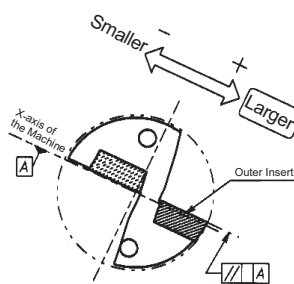
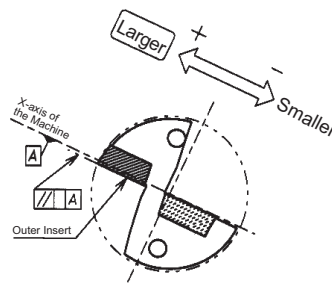

Fig.2 Outer insert Facing Up
Fig.3 Outer insert Facing Down
- Using the bottom screw of the side-lock arbor, firmly tighten on the drill directly through the sleeve's window. The upper screw should be tightened slightly so that the sleeve will not be damaged. (Fig.2)
Most Lathe problems occur due to Center Height Deviation. The Center Height is appropriate if a core approximately 0.5mm diameter remains at the center of the end face. (Fig.3) Center-height adjustment is necessary for the case as follows:
- ① The moving direction of the X-axis movement depends on the position of the toolholder.
- ② In case of making the hole diameter larger, slide the tool along the X-axis toward the outer insert side. (Fig.2, Fig.3)